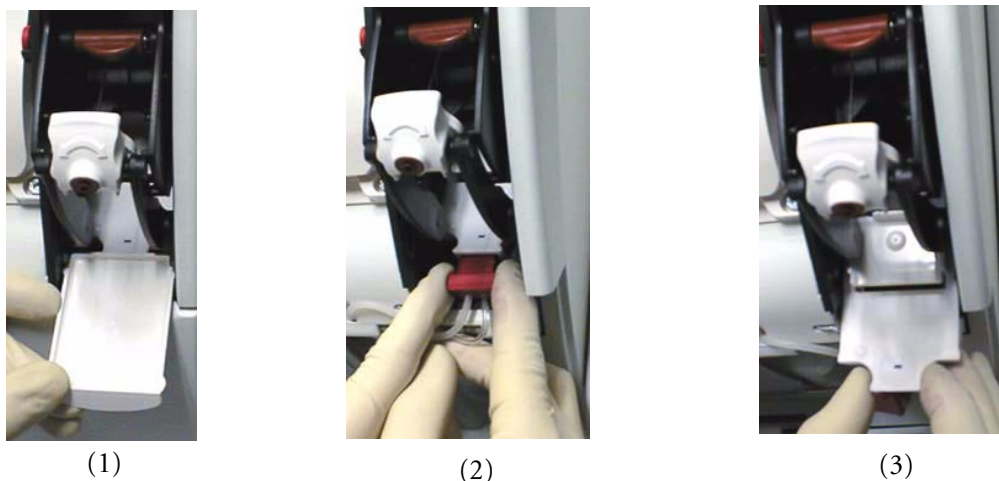

Fig. 17
- Remove the sample drop cup and clean it according to local regulations (see Fig. 17/1).
- Remove the red tube connector from the wash plate (see Fig. 17/2)
- Push the wash plate down (to unlock) and pull it out (see Fig. 17/3). The wash plate is locked when the plug is sticking out and cannot be removed.